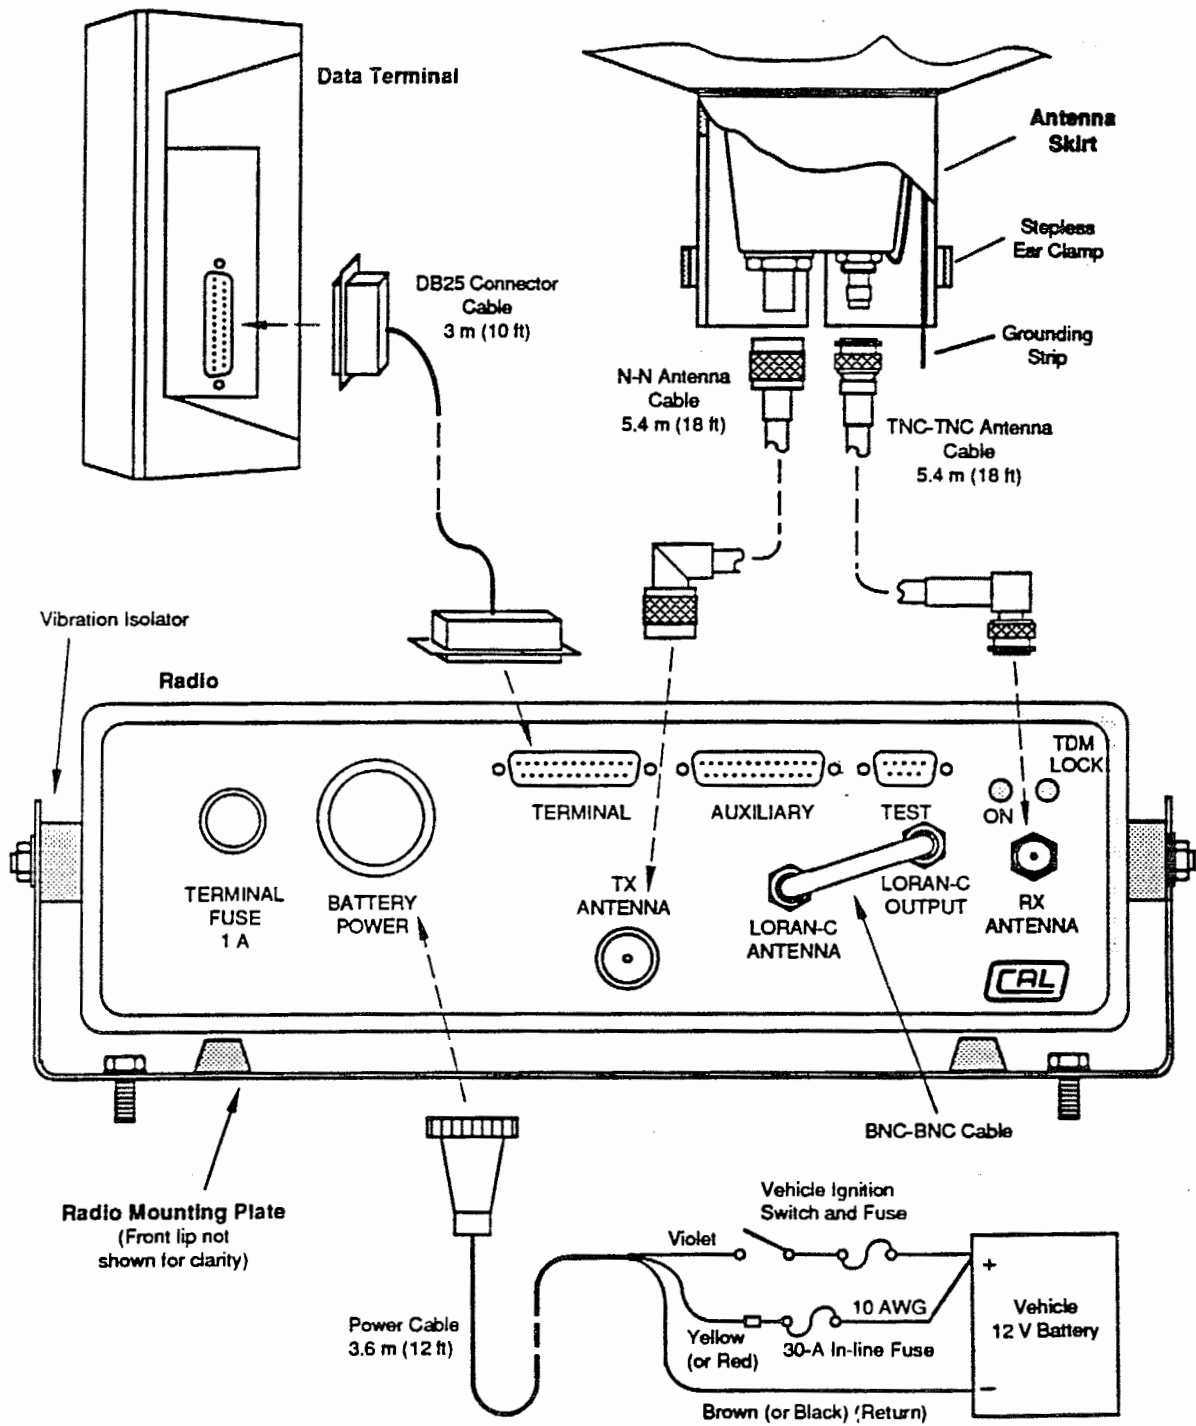

Figure 2 Cable Interconnections
When planning the installation, note the lengths of the supplied cables as shown in Figure 2. The power cable can be shortened to suit the installation and to reduce the voltage drop between the vehicle battery and the Radio Unit. The length of the Data Terminal cable and the two Antenna rf coaxial cables must not be altered. If the rf coaxial cables are too long, loop the spare cable and tie it safely out of the way.
Refer to Figure 2.
- E1. Connect the power cable and in-line fuse as shown in Figure 2:
- F1. Refer to the interconnections shown in Figure 2 and install the cables. Roll and tie cables if they are too long.